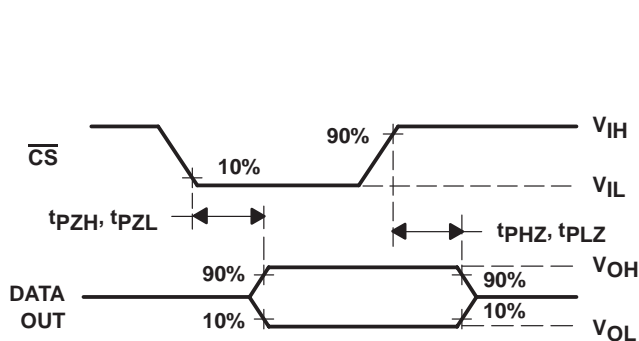

Figure 8. DATA OUT to Hi-Z Voltage Waveforms
10. I/O CLK period =  $1 / (\text{I/O CLK frequency})$  (see Figure 8).